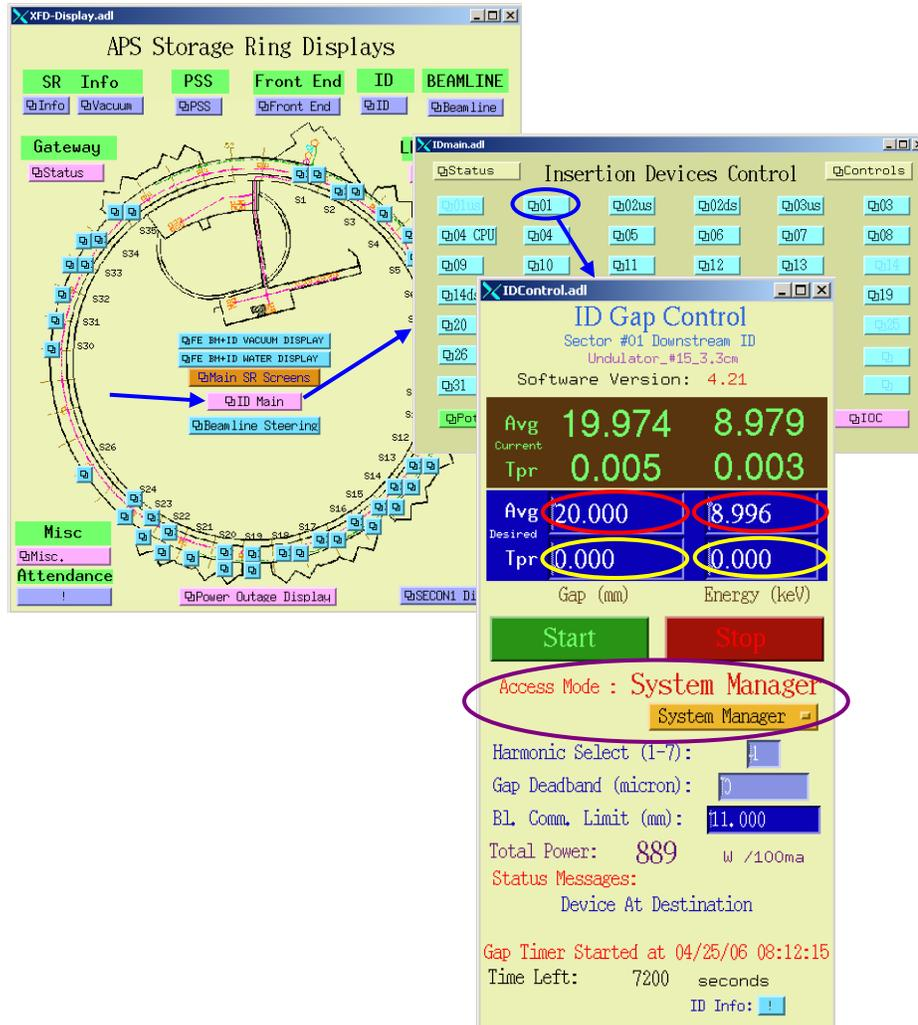

Figure 4: Path to ID Gap Control Screen, used to check and/or reset the ID Gap.
3. Once the shutter is open, if applicable, check the ID gap or energy (Figure 4). It is important to check the gap even if a script has told all of the gaps to return to their previous value. If the shutter has been closed for more than 2 hours, for example, the gap may not return to the user's desired value. If the gap does not match the value on the Shutter Operation Authorization Form, change it to the value on the form.